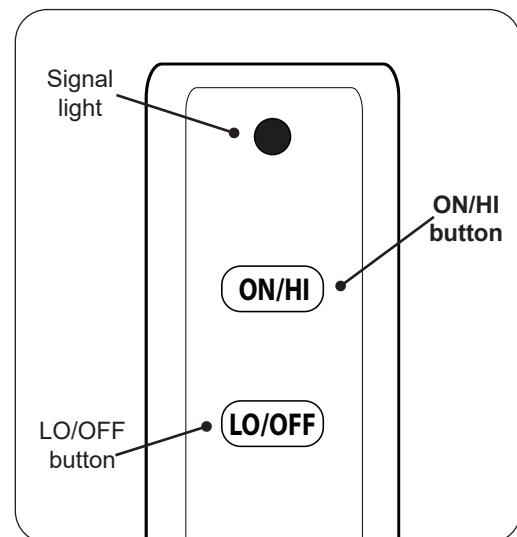

Fig. 31-1 Remote transmitter detail
- Locate the remote transmitter and press and hold the **ON/HI** button (see Fig. 31-1). The ignition sequence will begin.